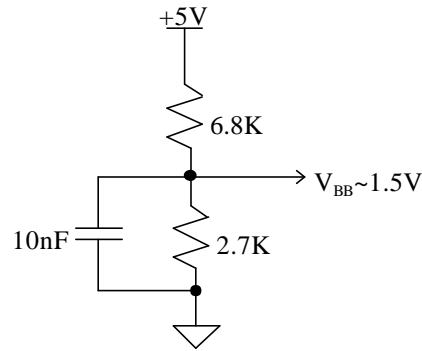

Figure 10. Voltage Divider for V_{BB}
- a) An external voltage divider should provide $V_{BB} \sim 1.5V$. Figure 10 shows a possible set of values. Observe that the 10 nF capacitor was added.